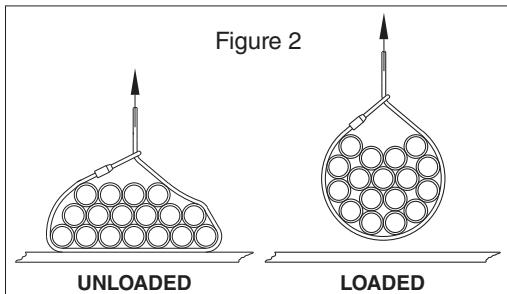

Figure 2
5. When disconnecting, the load should be clear of the stable support (See figure 2, Loaded). Remove Bundle Clip. Stay clear of the load as the bundle is lowered and the load is removed from the sling.
2. Before installing Bundle Clip, apply initial load by lifting the bundle and clearing the support, producing a tight choke. Repeat as necessary until the bundle package is in the most compact position (See figure 2, Loaded). **Keep hands and feet from under load.**